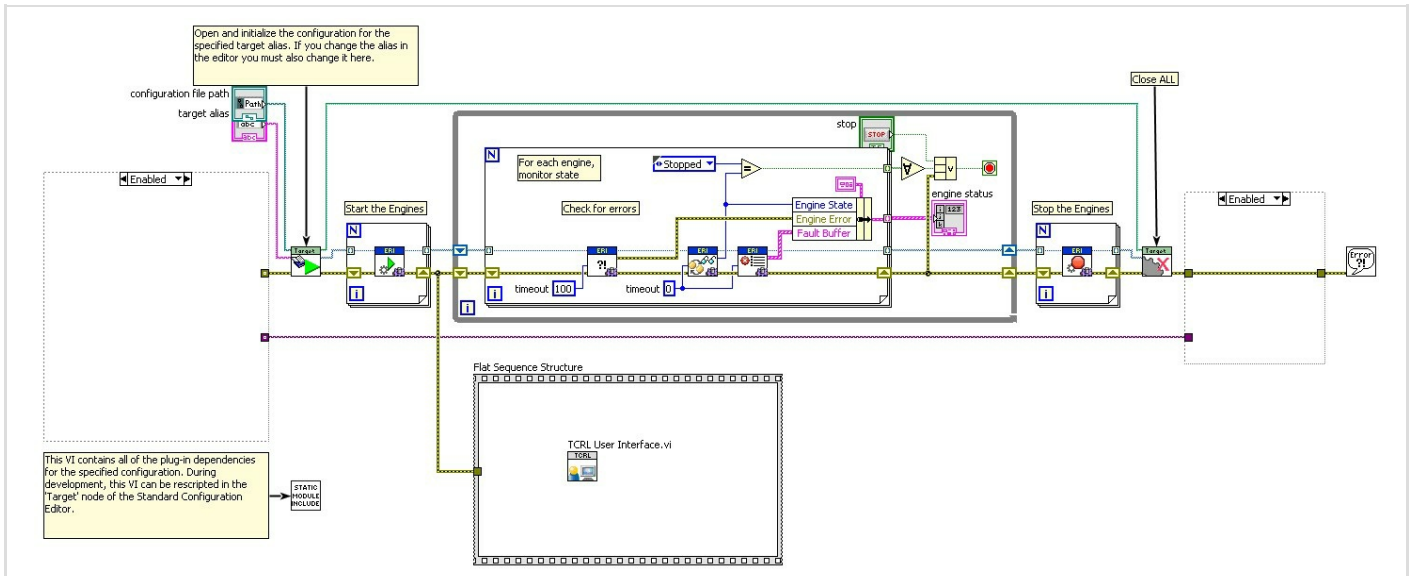

Figure 1.4
8. Open the **Host Main.vi** Block Diagram. You will modify this VI to look like the one in *Figure 1.4*. Consider the steps below: